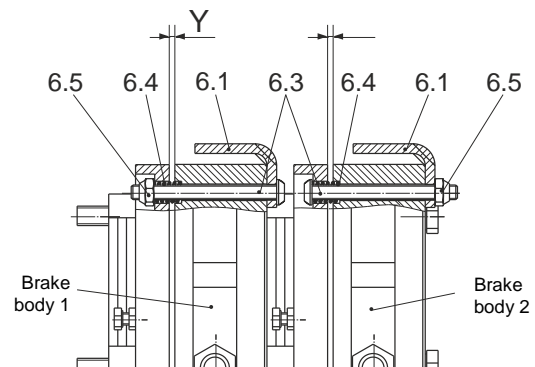

Fig. 7 (Sizes 4 to 300)
Hand Release Installation (Figs. 7 and 7a) Manufacturer-side
On the Sizes 4 to 300, the installation procedure is different for brake bodies 1 and 2 (see Fig. 7). If the brake is installed in the wrong order, it could fail.
6. Tighten the hexagon nuts (6.5) evenly, until the specified adjustment dimension "Y" (Fig. 7 and Table 4) is reached.
Single Hand Release Installation (Figs. 7 and 8) Manufacturer-side
The installation procedure is different for brake bodies 1 and 2 (see Figs. 7 and 8). If the brake is installed in the wrong order, it could fail.
4. Insert the screws (6.3) with the switch bracket (6.1) into the bores on the coil carrier (3).
7. Tighten the hexagon nuts (6.5) evenly, until the specified adjustment dimension "Y" (Fig. 7 and Table 4) is reached.